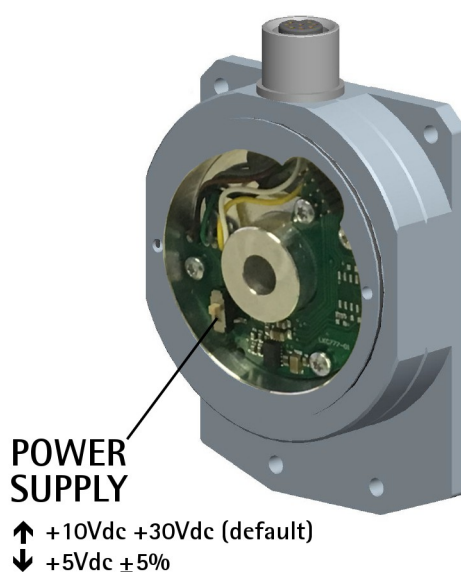

Figure 5 - POWER SUPPLY DIP switch
4.1.1 POWER SUPPLY DIP switch (Figure 5)